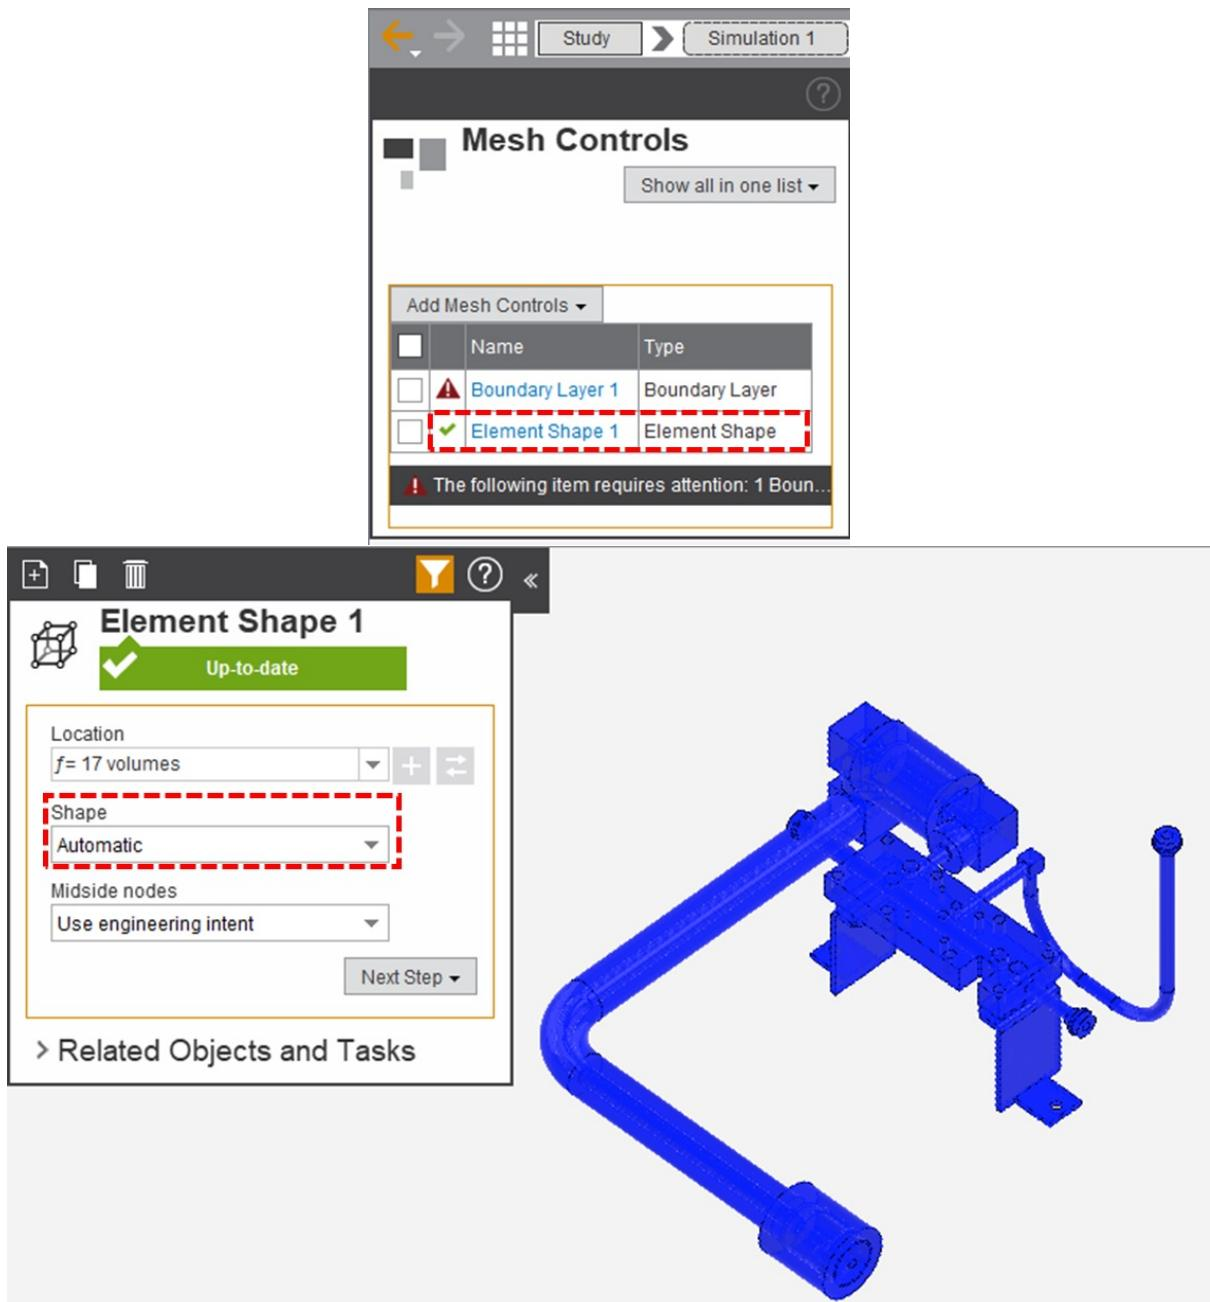

Figure 3.4:
3. Once the Boundary Layer has been defined, element shape can be accessed as shown in Fig. 3.4, and the shape we will select is **Automatic**.